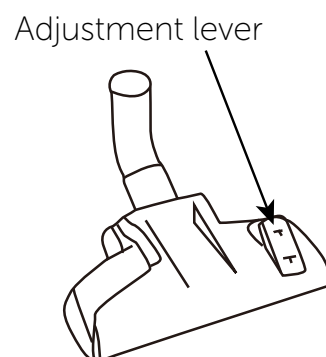

Fig. 3
5. To raise or lower the brushes on the floor head (fig. 3) press or lift the floor head adjustment lever.